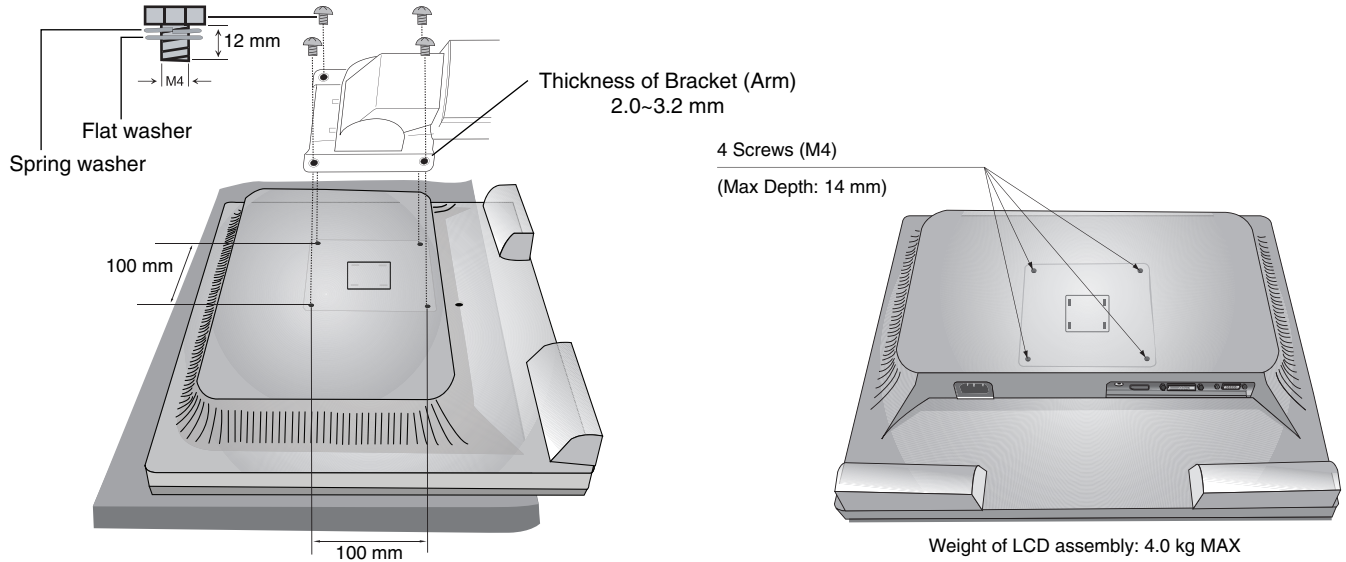

Figure F.1
2. Use the 4 screws removed from the stand or the specified screws to attach the arm to the monitor (**Figure F.1**).
Caution: Use ONLY the screws (4 pcs) that were removed from the stand or the specified screws (**Figure F.1**) to avoid damage to the monitor or stand.